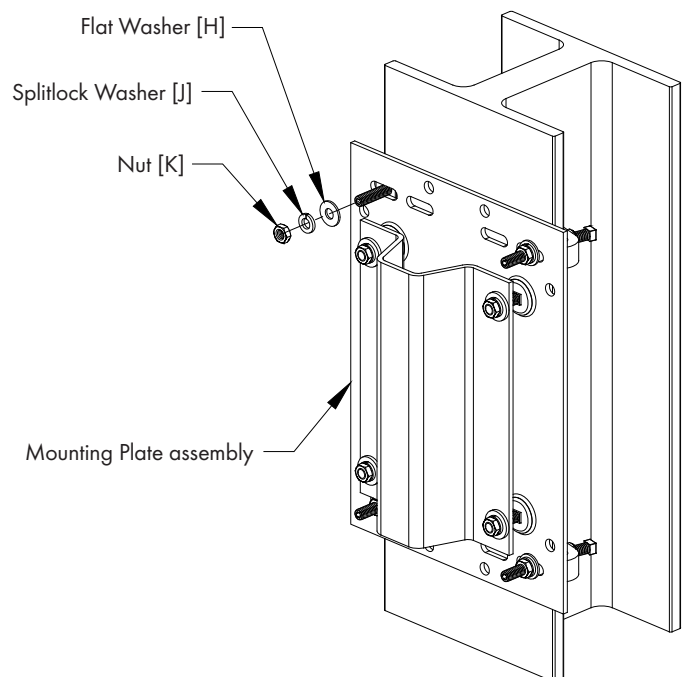

Figure 6
Place Mounting Plate assembly on 'I' Beam Clamp Threaded Inserts and fasten in place using (4) Flat Washers [H], Splitlock Washers [J] and Nuts [K]. See Figure 6. **Proceed to step 9.**